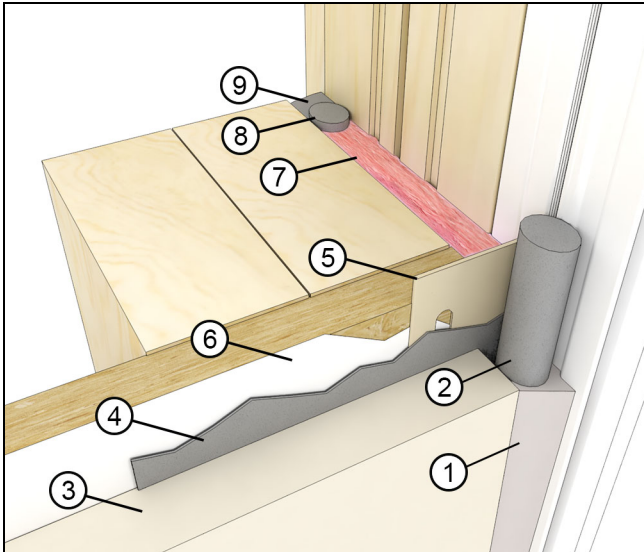

Figure 23
1. For ALL applications: Once the exterior finish such as siding or brick veneer is installed, apply bead of sealant between the finish and the frame exterior or casing along the sides. Apply additional beads approximately 1"- 2" (25-51) at the ends on top of the drip cap. Use a backer rod when necessary. See Figure 23 and Figure 24.